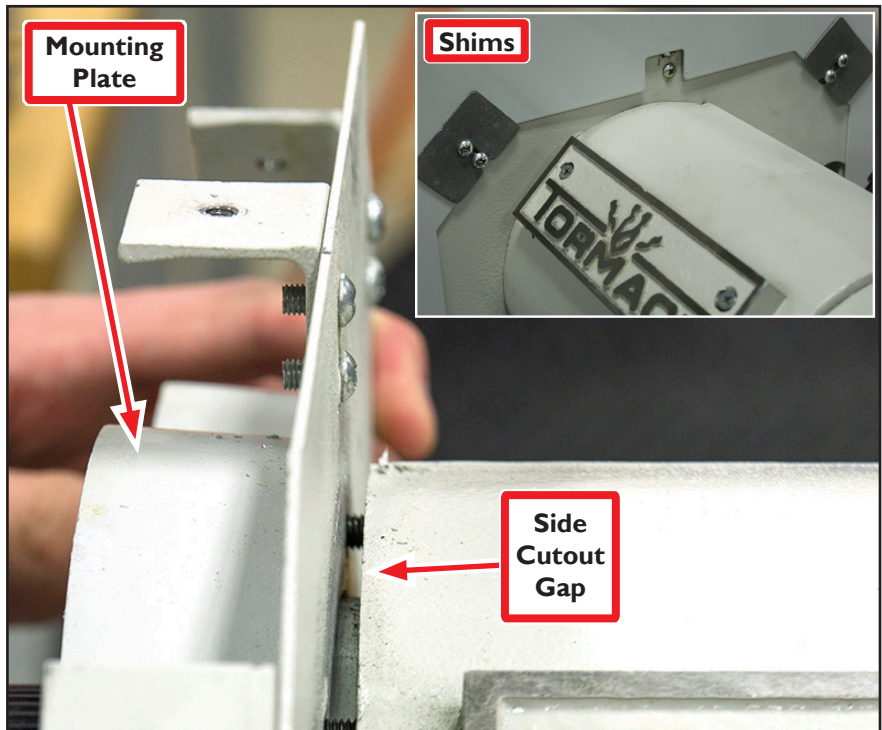

Figure 13
5. With Door not yet attached, carefully maneuver enclosure up and over lathe (see **Figures 14** and **15**); lower slowly ensuring the Side Cutout is inserted into the Side Cutout Gap shown in **Figures 13, 14, and 15**.
IMPORTANT: If necessary, Shims (included) can be used to snug Left Side Panel to Mounting Plate (see **Figure 13 inset**).